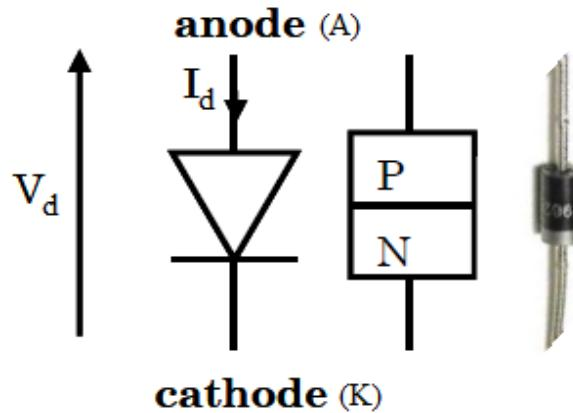

Figure 2: PN junction diode symbol.
The diode is a passive, nonlinear, and polarized component. Its orientation in the circuit is crucial for the correct operation of the electronic system. The diode consists of an anode (A) and a cathode (K), as depicted in the diagram in Figure 2. It is formed by the junction of two semiconductors, one doped with P-type material and the other with N-type material. Current can only flow through the junction from the P region to the N region.